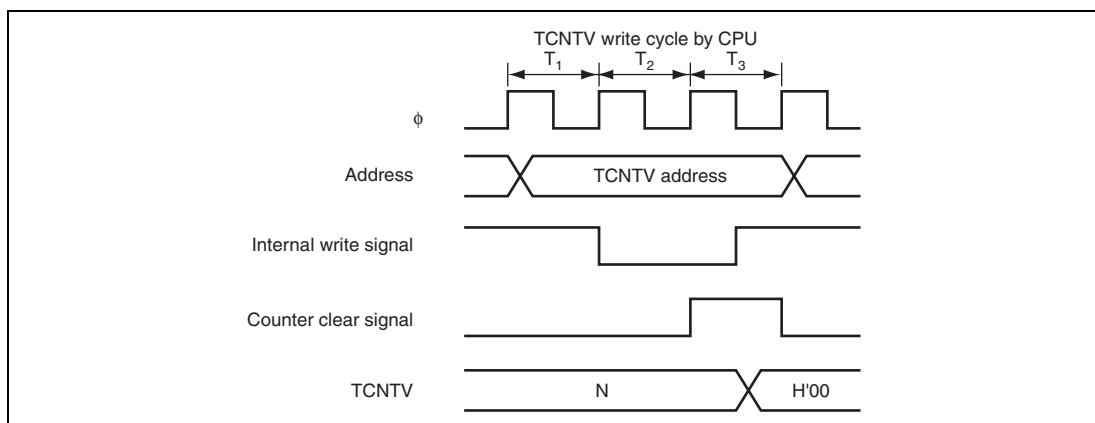

Figure 12.11 Contention between TCNTV Write and Clear
1. Writing to registers is performed in the T3 state of a TCNTV write cycle. If a TCNTV clear signal is generated in the T3 state of a TCNTV write cycle, as shown in figure 12.11, clearing takes precedence and the write to the counter is not carried out. If counting-up is generated in the T3 state of a TCNTV write cycle, writing takes precedence.